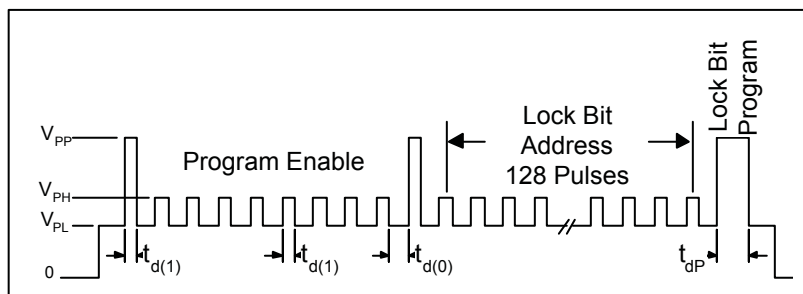

Figure 7. Lock -Bit Programming Pulse Sequence
**Lock-Bit Programming** After the desired code is programmed, the lock bit (code 128), can be programmed (figure 7) to prevent further programming of the device. Again, programming is not reversible. See Allegro website at <http://www.allegromicro.com> for extensive